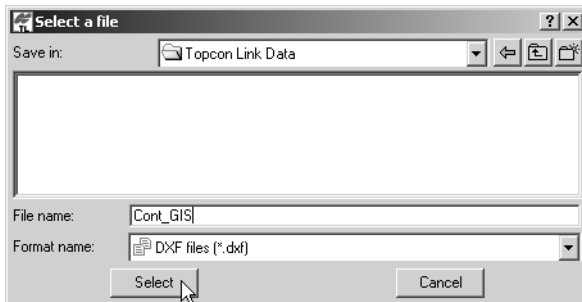

Figure 3-7. Select A File
6. Click **Browse** (“...”) and select or create a folder in the *Select a file* dialog box, then select the destination file type and enter the destination file name. Click **Select** (Figure 3-7).